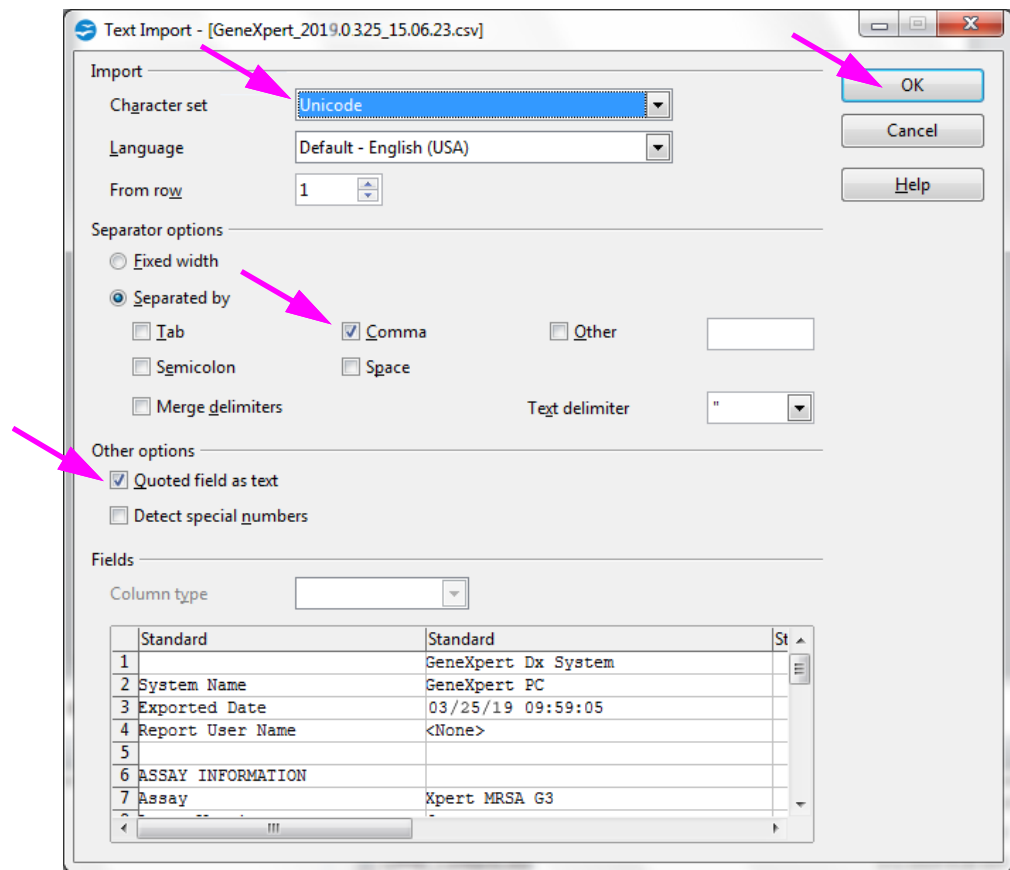

Figure 5-59. Text Import Screen with New Settings Selected
2. The Text Import screen will appear. On this screen, verify the checkboxes to the left of **Comma** and **Quoted field as text** have been checked. See Figure 5-59.